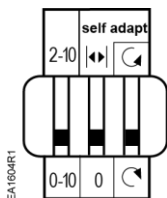

Figure 14.
To use the entire 0(2) to 10V input signal to control the mechanically limited range, see Figure 14 for setting self-adaptive features.